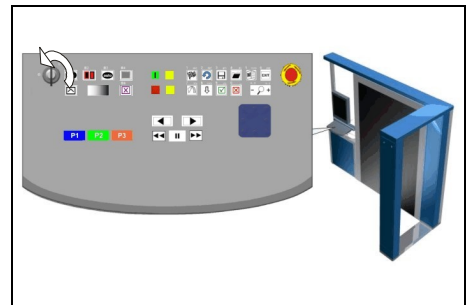

Fig. 24: Keyboard
- ▷ Turn the key switch to the left (into position 0) in order to switch off the unit (see Fig. 24).